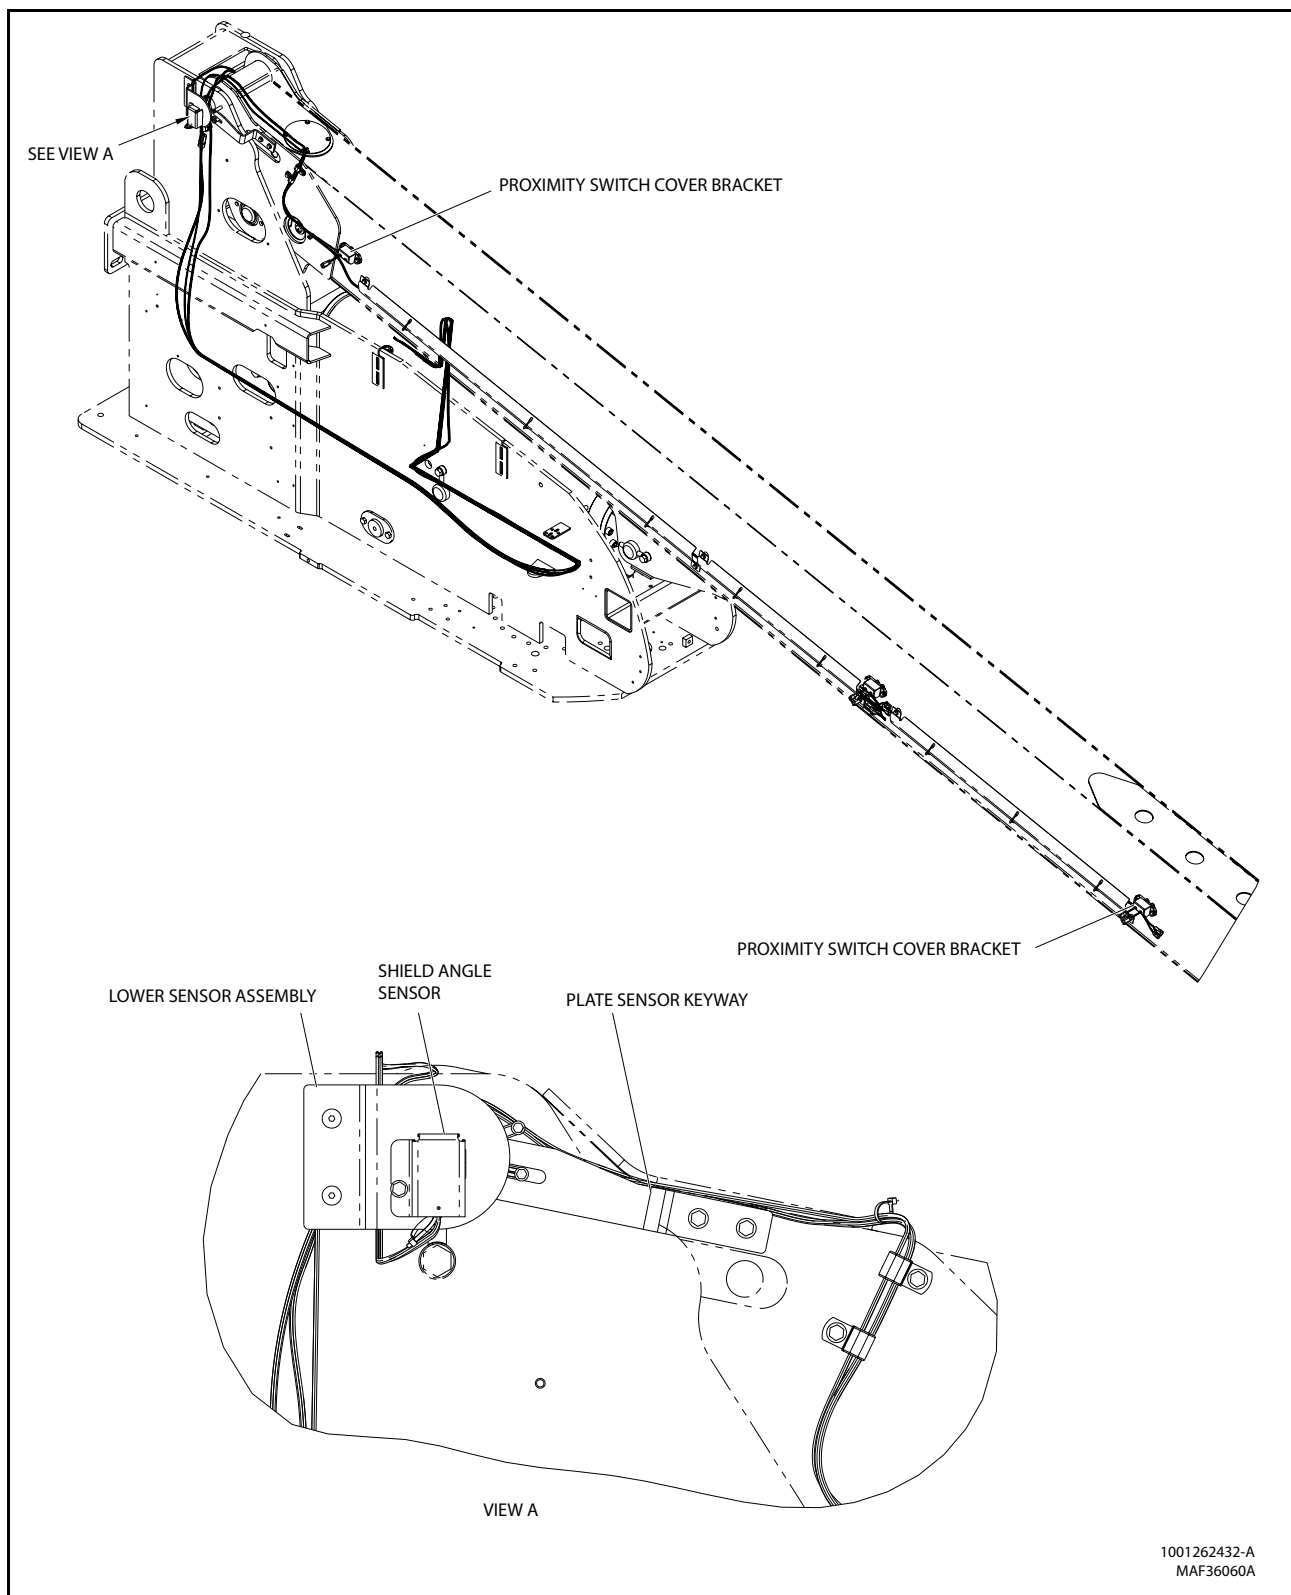

Figure 4-7. Capacity Switch Installation - Sheet 1 of 2
The Telescope Retracted Sensor measures boom length to control drive speed and the oscillating axle. The telescope retracted sensor is mounted on the left side of main boom as shown in Figure 4-7. to Figure 4-15.
The capacity sensors are located on the main boom as shown in Figure 4-7. to Figure 4-8.
Sensor 1 (left proximity sensor, refer Figure 4-7. to Figure 4-8.) is a normally closed sensor which is closed in the unrestricted 500 lb (227 kg) zone. LED for Sensor 1 is ON in this mode.
Sensor 2 (right proximity sensor, refer Figure 4-7. to Figure 4-8.) is a normally open sensor which is open in the unrestricted 500 lb (227 kg) zone. LED for Sensor 2 is OFF in this mode.
- The Machine Control System will allow the platform to go anywhere in the working envelope. The unrestricted 500 lb (227 kg) working envelope is shown in Figure 4-7. to Figure 4-8.
The Sensor 1 (left proximity sensor, refer Figure 4-7. to Figure 4-8.) is a normally closed sensor which is closed in the restricted 750 lb (340 kg) zone. LED for Sensor 1 is ON in this mode.
The Sensor 2 (right proximity sensor, refer Figure 4-7. to Figure 4-8.) is a normally open sensor which is open in the restricted 750 lb (340 kg) zone. LED for Sensor 2 is OFF in this mode.
The Sensor 1 (left proximity sensor, refer Figure 4-7. to Figure 4-8.) is a normally closed sensor which is open in the restricted 750 lb (340 kg) zone. LED for Sensor 1 is OFF in this mode.
The Sensor 2 (right proximity sensor, refer Figure 4-7. to Figure 4-8.) is a normally open sensor which is closed in the restricted 750 lb (340 kg) zone. LED for Sensor 2 is ON in this mode.
- The Machine Control System will not allow the platform to go beyond the boundaries of the restricted 750 lb (340 kg) zone. It will allow retraction of the boom or lifting of the boom. The restricted 750 lb (340 kg) working envelope is shown in Figure 4-7. to Figure 4-8.
The Sensor 1 (left proximity sensor, refer Figure 4-7. to Figure 4-8.) is a normally closed sensor which is open in the restricted 1000 lb (454 kg) zone. LED for Sensor 1 is OFF in this mode.
The Sensor 2 (right proximity sensor, refer Figure 4-7. to Figure 4-8.) is a normally open sensor which is closed in the restricted 1000 lb (454 kg) zone. LED for Sensor 2 is ON in this mode.
- The Machine Control System will not allow the platform to go beyond the boundaries of the restricted 1000 lb (454 kg) zone. It will allow retraction of the boom or lifting of the boom. The restricted 1000 lb (454 kg) working envelope is shown in Figure 4-7. to Figure 4-8.